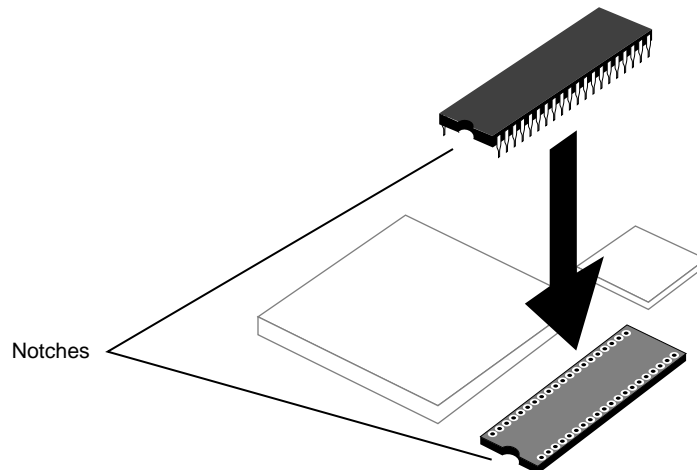

Figure 2-13 Lining Up the PROM Chip
- Grasp the new PROM chip. Orient the PROM above the socket on the CPU board so the semi-circular notch on the PROM chip lines up with the notch in the socket, as shown in Figure 2-13.